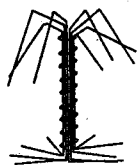

Figure 1.1
3. Place the copper wire tree (Figure 1.1) in a 250-mL beaker containing 200 mL of the silver nitrate solution. Observe this system at intervals during the class period.
5. Add a small amount of manganese(IV) oxide powder to 50 mL of hydrogen peroxide solution in a 250-mL beaker. Cover the beaker with a watch glass for 15 seconds. Observe what happens when a glowing wood splint is inserted into the upper part of the beaker.